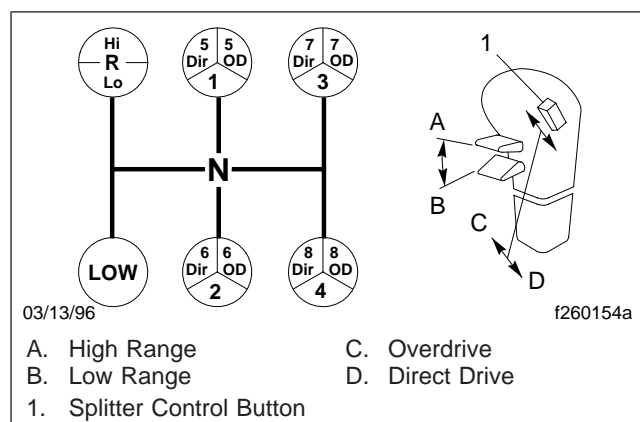

Fig. 8.23, Meritor 13-Speed RMO Model Transmission Shift Pattern
The Meritor RMO13–145A transmission has thirteen forward speeds and two reverse speeds. Each transmission consists of a 5-speed front section, and a 3-speed auxiliary section. The auxiliary section contains low and high range ratios, plus, an overdrive splitter gear. See Fig. 8.23.
4. While in 5th direct, and ready for the next downshift, push the range selection lever down into low range. Double-clutch through neutral, and shift into 4th gear. See Fig. 8.23. As the shift lever passes through neutral, the transmission will automatically shift from high range to low range.